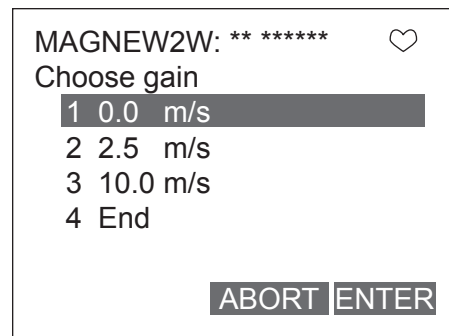

Fig. 7-48.
6. A numerical value input display (Fig. 7-48.) will then appear. Measure the output current from the converter and enter the current value by the mA into the device. Once the input has been completed press F4 (ENTER). The converter will start adjusting to 4mA automatically, and return back to the display as shown in Fig. 7-48. Verify that the current output value is 4 mA, and terminate the adjustment.